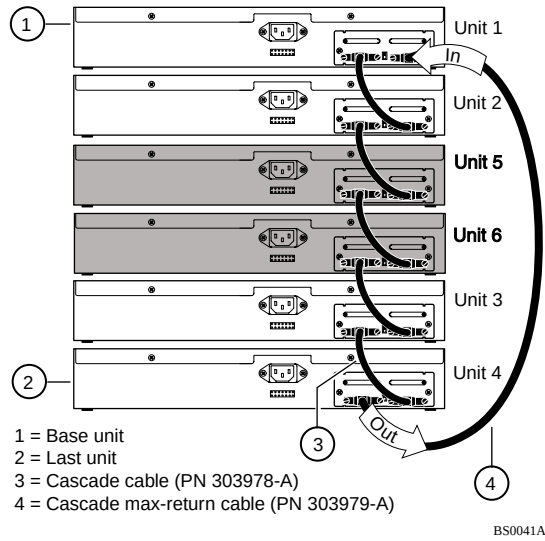

**Figure 14. Adding to Middle of Stack**
1. **Determine the position of the new units in the existing stack (Figure 14).**
For example, the shaded units (units 5 and 6) in Figure 14 show two new units to be added to the stack. The new units are numbered as unit 5 and unit 6 because they are additions to an existing four-unit stack.